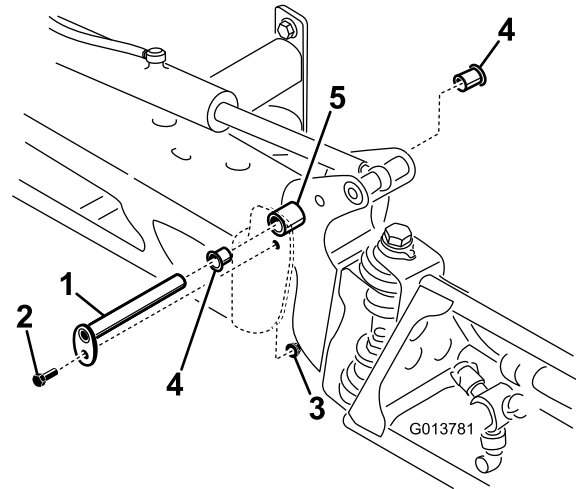

Figure 66
3. With the weight of the boom supported, remove the bolt and nut securing the pivot pin to the boom assembly (Figure 66).
4. Remove the pivot pin (Figure 66).
6. Remove and inspect the nylon bushings from the front and back sides of the pivot bracket (Figure 66).
8. Install the boom and pivot bracket assembly into the center frame, aligning the openings (Figure 66).